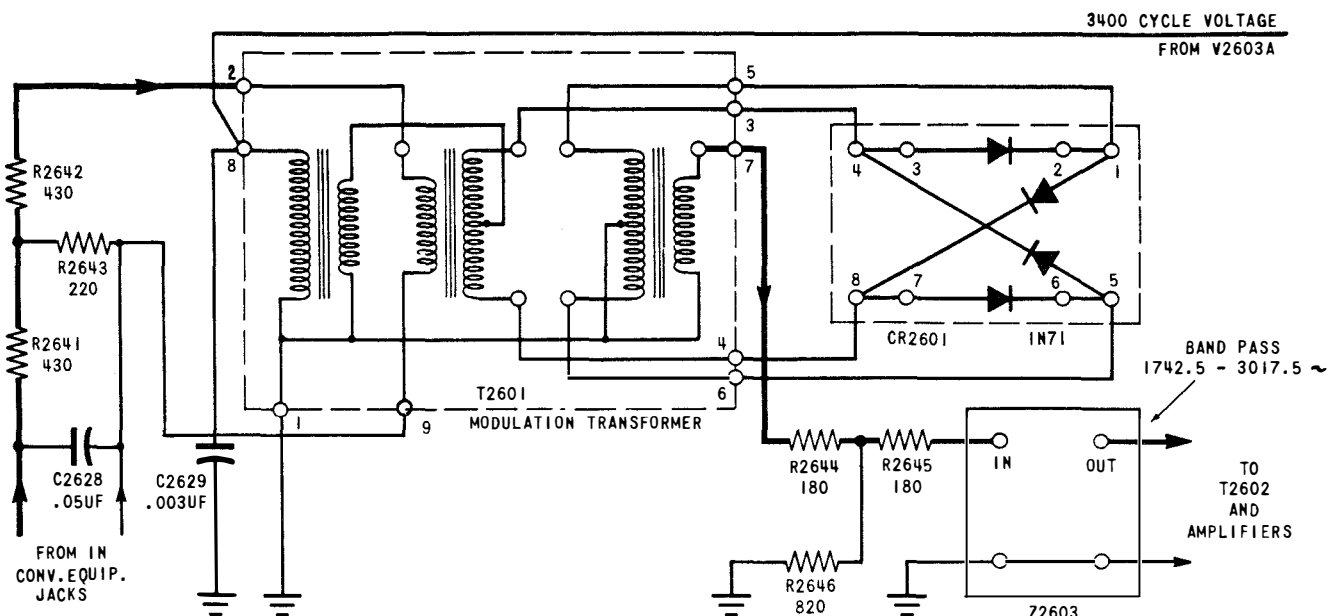

Figure 2-18. Schematic Diagram of Modulator and Filter Circuits of Electronic Frequency Converter CV-243A/FCC-3
c. MODULATOR AND FILTER CIRCUITS. - The modulator circuit mixes the input audio signals with the crystal controlled 3400 cycle carrier voltage, and generates the sum and difference frequencies between 3400 cycles and the input frequencies. Since the difference frequencies are in the pass band of Z2603 they are transmitted to the amplifier while the sum frequencies are attenuated. In this manner, the input signal, which normally contains eight 170 cycle shift channels covering the frequency range of 382.5 to 1657.5 cps, is converted to a frequency range of 1742.5 to 3017.5 cps, with the lowest frequency channel of the input positioned at the upper end of the output frequency range. Jacks are provided in the input lines of both the IN CONV and IN NORM lines for testing and patching purposes. Neither side of these lines are grounded. As shown in figure 2-18, the incoming signal to be converted is applied to a T-pad consisting of 430 ohm resistors R2641 and R2642 and a 220 ohm resistor R2643 which attenuates the signal 12 db to a level acceptable to the diode bridge. C2628, a 0.05 mf capacitor across the IN CONV line, is a radio frequency filter that prevents harmonics of the 102.00 kc crystal oscillator from being transmitted out on the lines. The signal is then transformed by one of the balanced transformer sections of T2601 and applied across the type 1N71 crystal diode ring modulator, while the 3400 cycle carrier is applied across the center taps of the output and input transformer section. From the output section, the voltages received are essentially sum and difference frequencies between the 3400 cycle carrier and the signal. Since the amplitudes of the sum and difference frequencies vary as the signal voltage, the output of the modulator is approximately proportional to the input. The output of the modulation bridge is matched to the